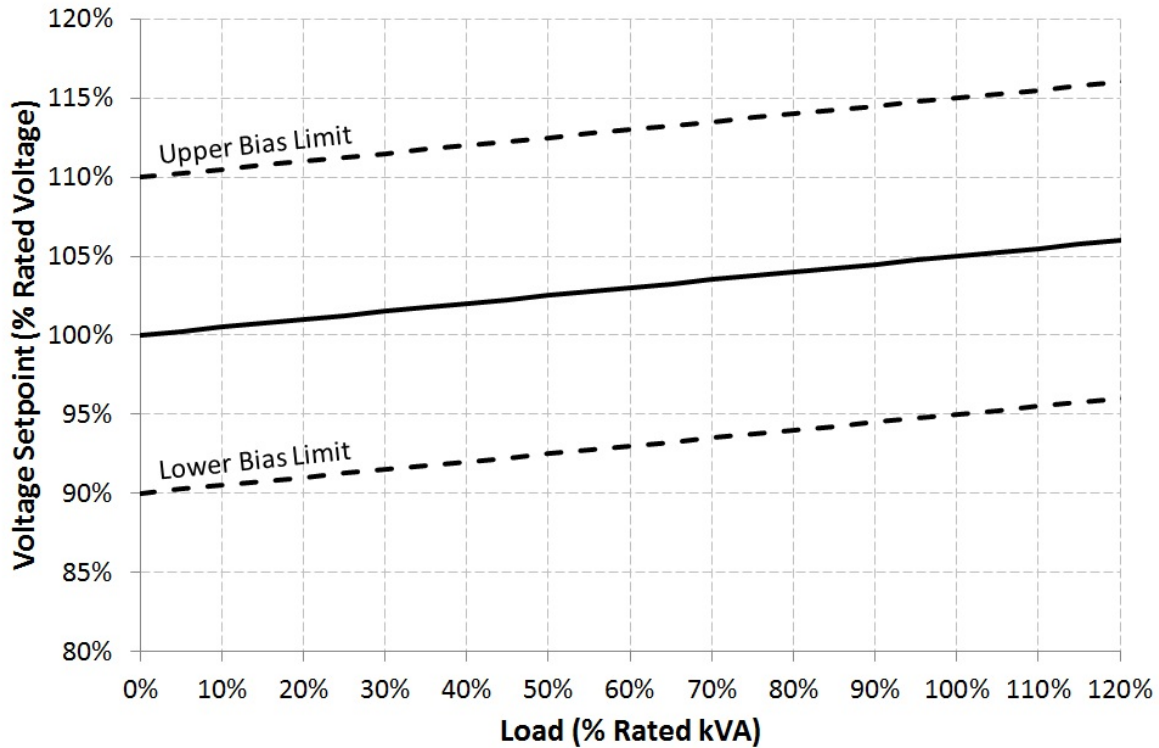

Figure 74: Line Loss voltage setpoint change based on total (kVA) load
For example, if it is observed that the voltage at the load side of the feeder line has decreased by 5% from rated voltage when the generator is supplying rated kVA load, the Voltage Regulator (IR) Compensation Percentage should be set to 5.0%. In this case, the output voltage measured at the generator terminals will increase from 100% to 105% of rated voltage as the generator load increases from 0% to 100% of rated kVA, as illustrated in Figure 74.
If a bias is applied to the voltage setpoint from an external source, the IR compensation percentage is applied to the nominal setpoint plus the bias percentage. For example, if a +10% or -10% bias were applied to the nominal voltage, the voltage setpoint would increase linearly as shown by the Upper and Lower Bias Limit dashed lines indicated on the diagram presented in Figure 74.